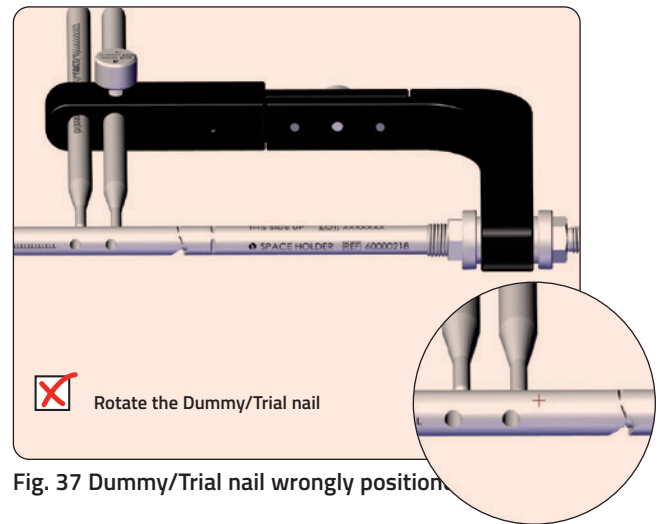

Fig. 37 Dummy/Trial nail wrongly position
3. The Fitbone is wrongly placed (**Fig. 37**).